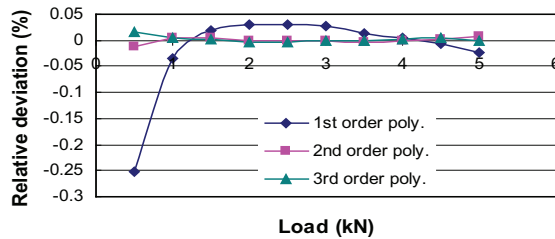

Figure 1. Relative deviation for different fitted polynomials equations of 5 kN load cell.
The result of the calibration curve of the force transducer is given by first, second or third degree polynomial equations [4, 5]. For simplicity, some laboratories make a linear approximation for the force transducer responses. Using a linear polynomial equation may introduce erratic calibration results for the calibration machine. Figures 1 – 4 show the relative deviation (RD) of the fitted results by first, second and third degree polynomial from the experimental calibration results, for different transducer types with different capacities. The relative deviations are calculated from the following equation: